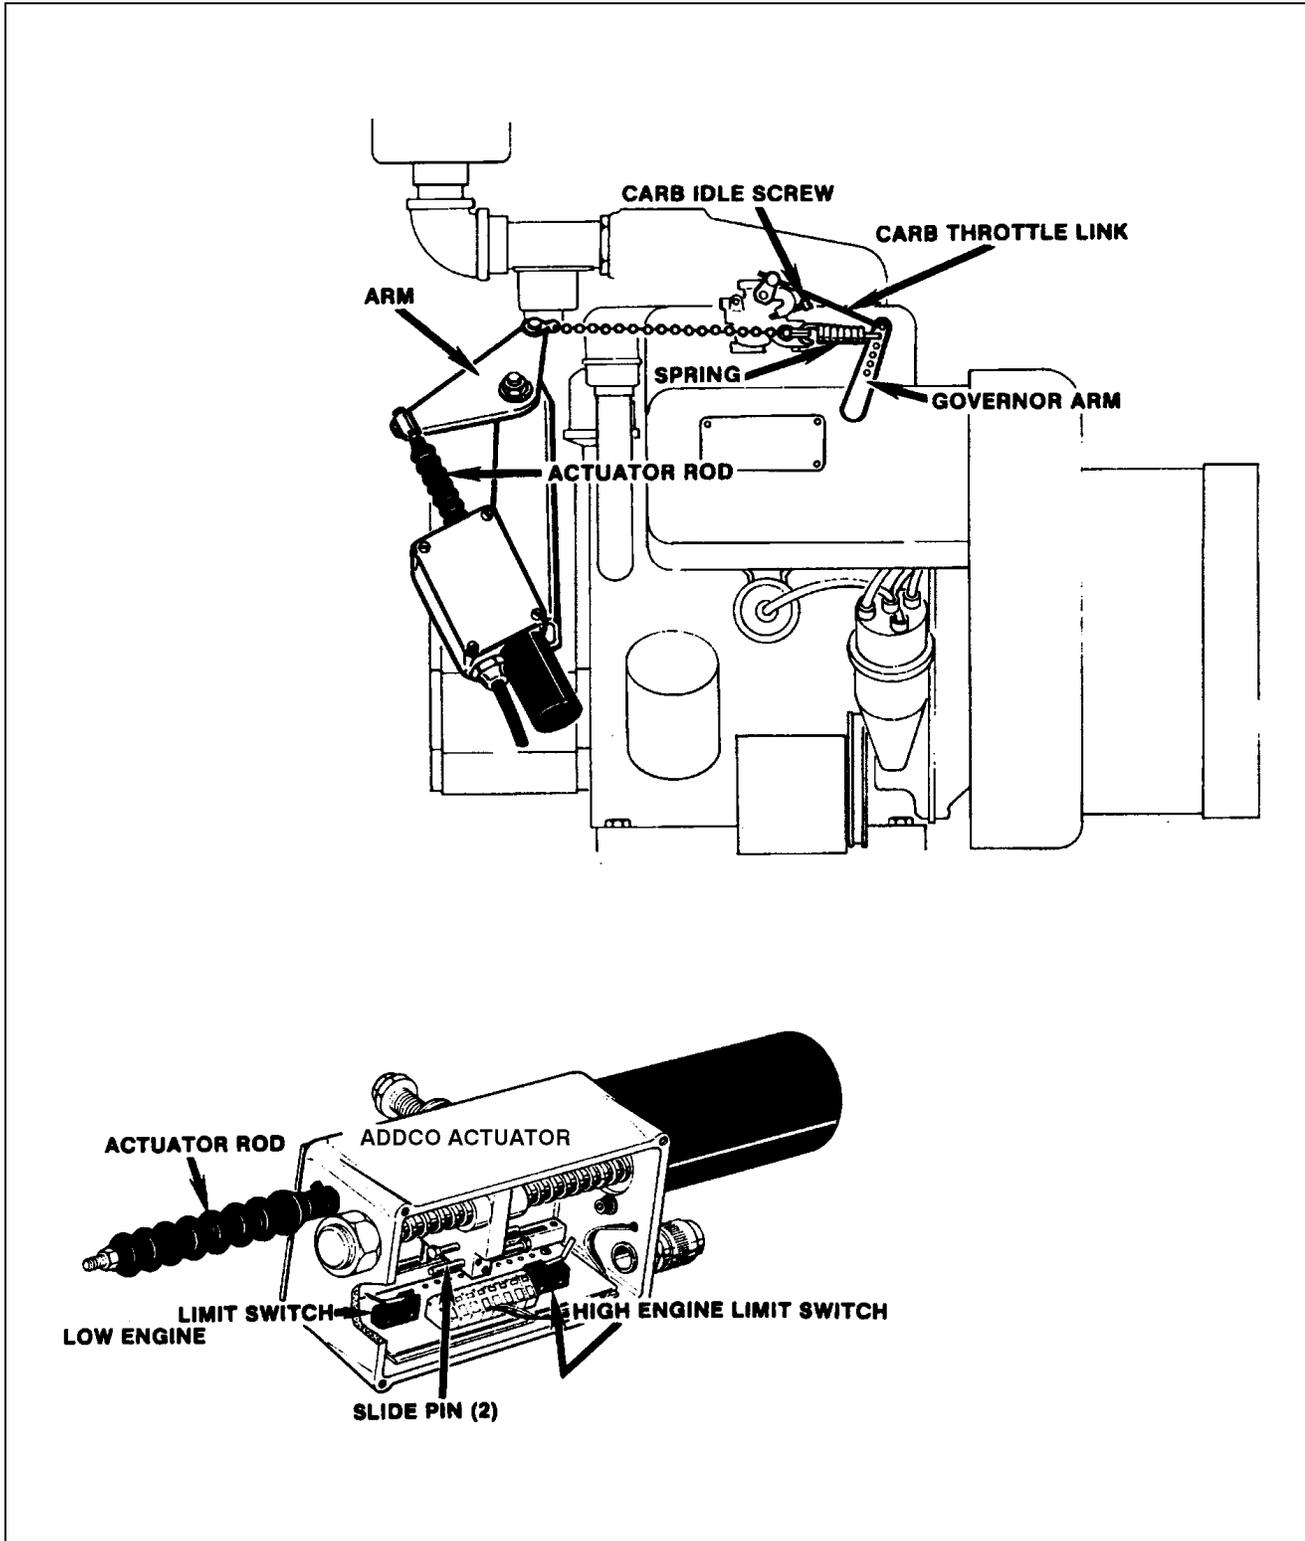

Figure 2-9. Addco Actuator Adjustments, VG4D.
2.18 THROTTLE CHECKS AND ADJUSTMENTS WISCONSIN ENGINE. (SEE FIGURE 2-9.)